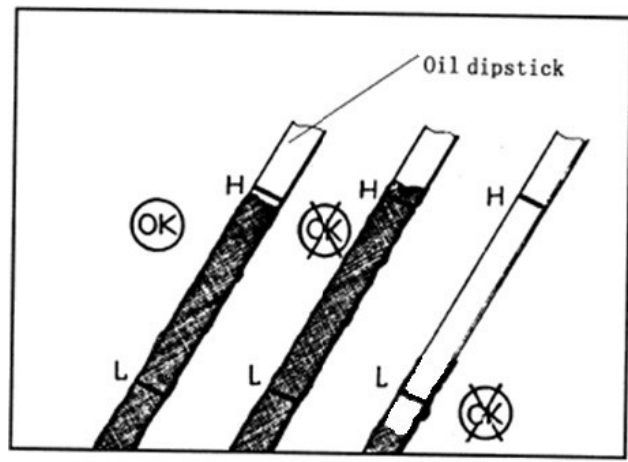

Figure 8. Engine Oil Dipstick
- a. Check oil level. (Refer to Figure 8.)